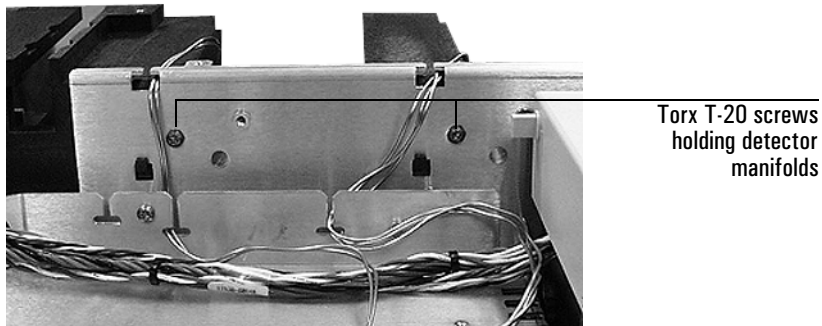

Figure 4 Removing the detector flow manifold
4. Remove the Torx T-20 mounting screw from the front of the manifold to be removed. See Figure 4.
5. Disengage the detector tubing from the slots in the chassis so that the gang fitting on the manifold can be removed easily. See Figure 4.
6. Route the gas tubing behind the manifold, over the top of the chassis, and through the slots as shown in Figure 4 and Figure 8.
8. Secure the manifold in place using the Torx T-20 screw. See Figure 4.